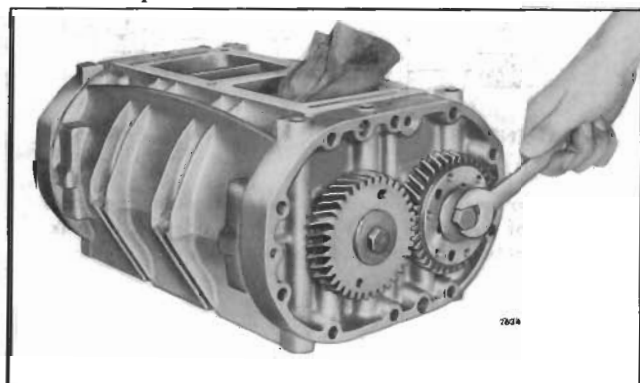

Fig. 18 - Installing Blower Rotor Timing Gears
- g. Thread a 1/2"-20 x 1-1/4" bolt with a thick washer into the end of each rotor shaft. Place a clean folded cloth between the lobes of the rotors (Fig. 18) to prevent the gears from turning. Draw the gears into position tight against the spacers and shims and the bearing inner races as shown in Fig. 18.